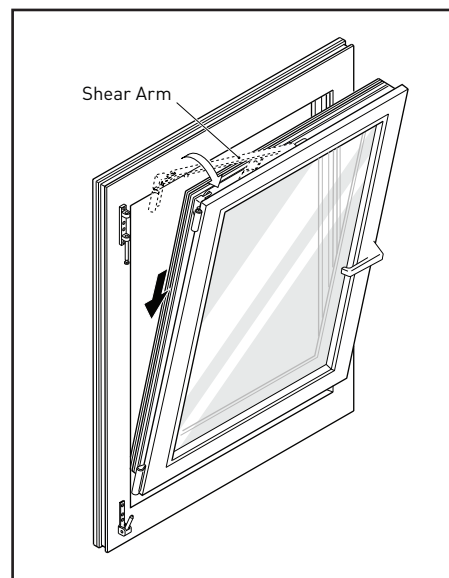

Figure 2-14. How to install the sash, and put the shear arm back into position
4. As you do this, the shear arm at the top of the sash may disengage. If this occurs, gently lift the arm upwards, align the arm parallel to the sash, and press the arm downward until it “clicks” into place. See fig. 2-14.
Make sure the shear arm is in position before you install the sash. See fig. 2-14